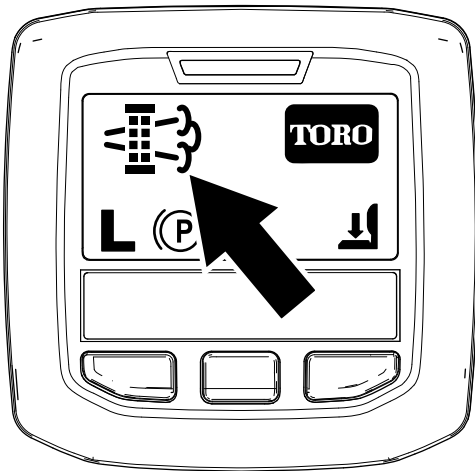

Figure 53
- When the engine computer requests either a parked regeneration or a recovery regeneration, the regeneration request icon (Figure 53) displays in the InfoCenter.